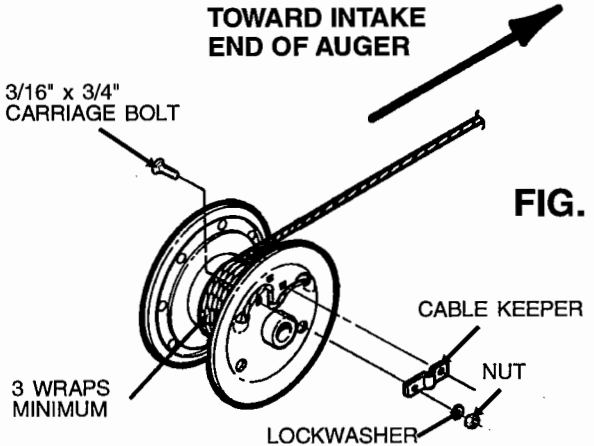

FIG. 38
Step 5. Attach 1/4" lift cable to winch drum so cable will wrap over winch drum on 32' & 42' models when turning handle in a clockwise direction. See Fig. 38. From inside of drum, insert the cable through one round hole in the drum side, until it extends 1" past the two square holes. Next clamp the cable to the outside of the drum with the cable keeper, using two 3/16" x 3/4" carriage bolts, lock washers and nuts. Be sure that the carriage bolt heads are on the inside of the drum.